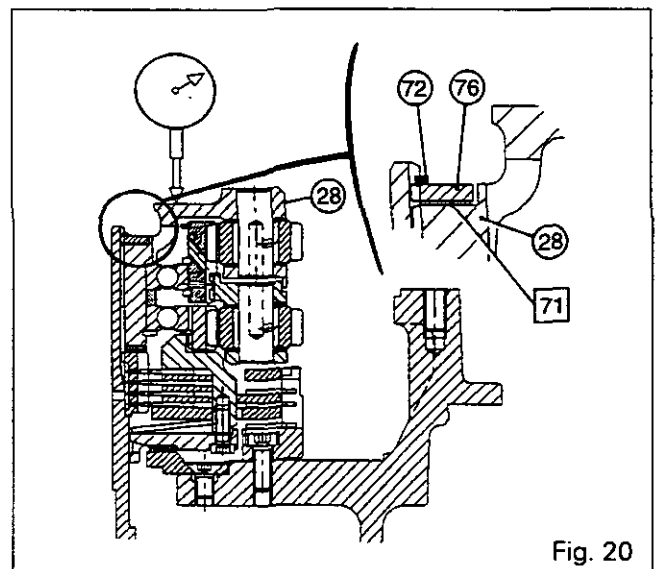

Fig. 20
66. Position the sun gear (61) on the housing (59) and position the planetary carrier assembly on shaft (53). Fit the tab washer (76) and retaining gear (72).
67. Place the tip of a dial gauge as per Fig. 20 and check the play by moving the planetary carrier assembly vertically.
70. Fit the springs (65). Position the pressure plate (38), checking that the notches are aligned with the lugs on housing /42\.
72. Refit the sun gear (61) and the planetary carrier assembly, and compress with tool 3376920 M1.
73. Position the shims [71] selected in procedure 68 against the planetary carrier (28). Fit the tab washer (76) and retaining ring (72) (Fig. 20).